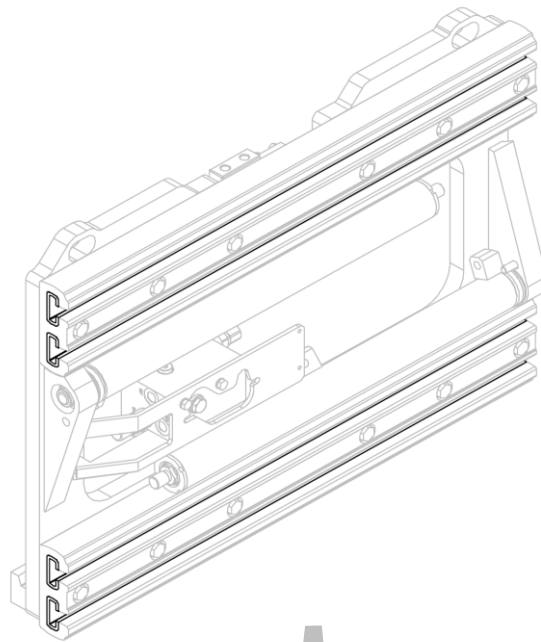
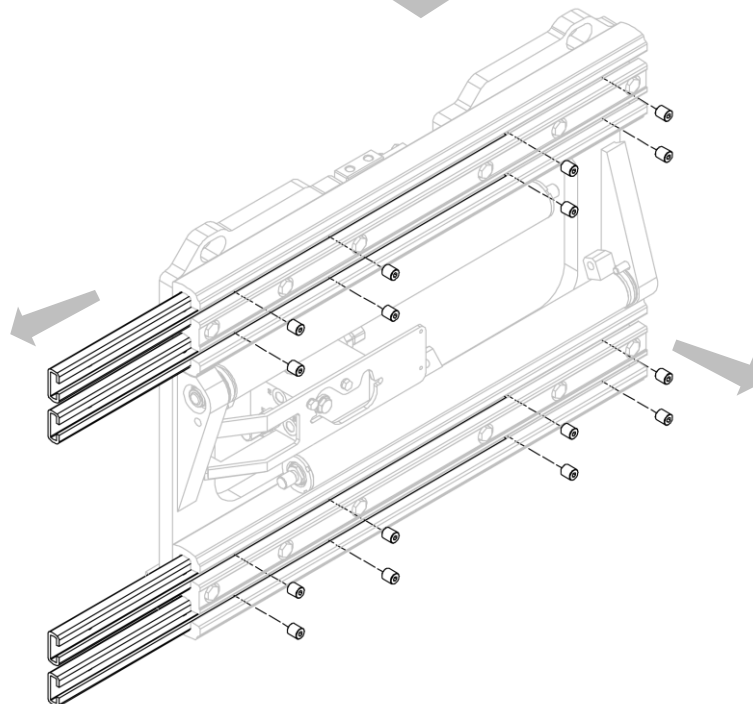

Figure 27
Figure 28
3. Remove the nylon bushes after unscrewing the corresponding grub screws (see *Figure 27* and *Figure 28*).